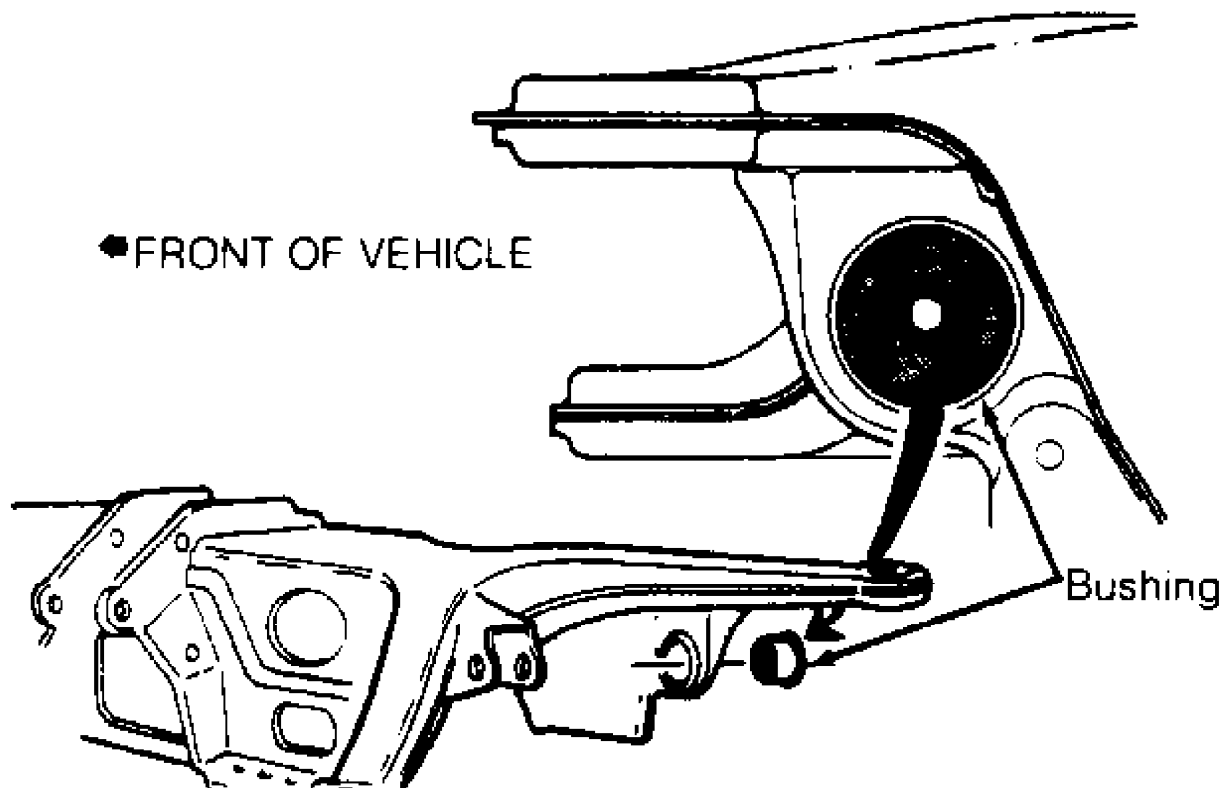

Fig. 3: Installing Multi-Link Control Arm Bushing (Multi-Link)
1) Use Press Tool (5353-3 and 5353-4) to install new bushing in subframe. See Fig. 3.